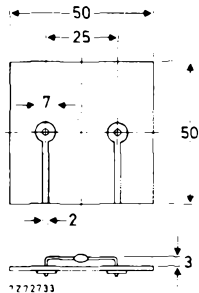

Fig. 2 Device mounted on a printed circuit board.
2. Thermal resistance from junction to ambient when mounted on a 1,5 mm thick epoxy-glass printed-circuit board; Cu-thickness  $\geq 40\text{ }\mu\text{m}$ ; Fig. 2